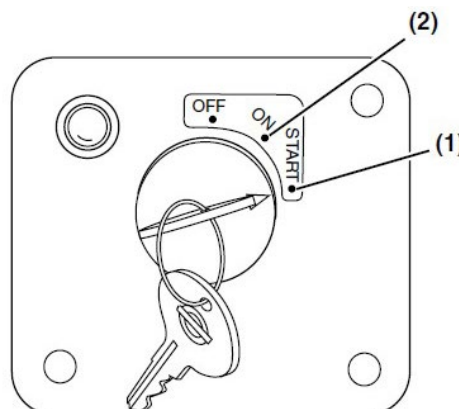

Figure 13
2. Turn the key clockwise to START position (**Figure 13, (1)**). Release the key as soon as the engine starts. It will return to the ON position (**Figure 13, (2)**).